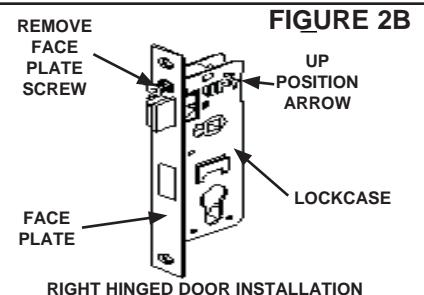

FIGURE 2B
- B. Position the lockcase so that the case is in the up position as shown. Remove the face plate from the lockcase by unscrewing face plate screw. **FIGURE 2B**